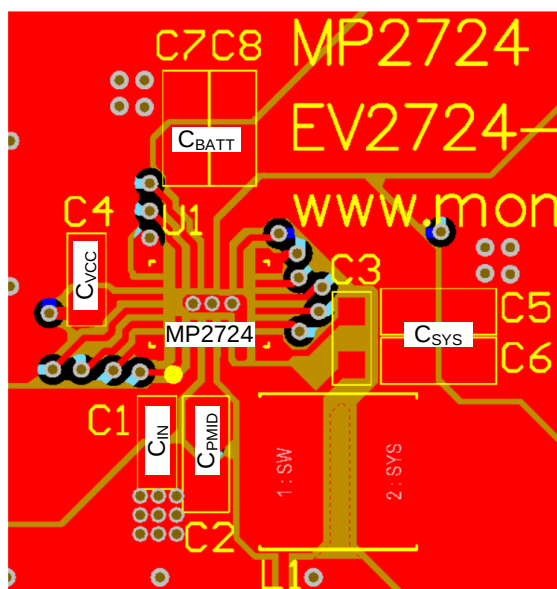
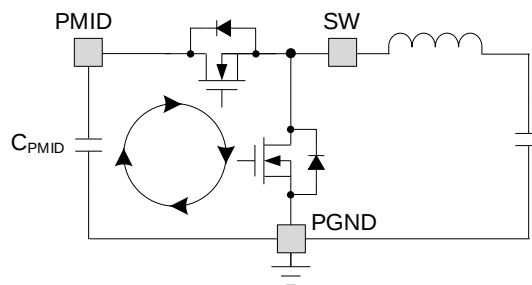

Figure 15: Recommended Layout for Decoupling Capacitors
Figure 16: High-Frequency Current Path
PCB layout is important to meet the specified noise, efficiency, and stability requirements. For the best results, refer to Figure 15 and Figure 16, and follow the guidelines below:
3. Minimize the high-frequency current path loop between C_{PMID} and the buck converter power MOSFETs (from the PMID pin to the capacitor to ground) (see Figure 15).
7. Place decoupling capacitors (e.g. the VCC pin capacitor) as close as possible to the IC pins, and make the connection as short as possible (see Figure 15).
10. Figure 16 shows a high-frequency current path, where the high-frequency path (the high-side MOSFET, low-side MOSFET, and C_{PMID}) must be minimized.